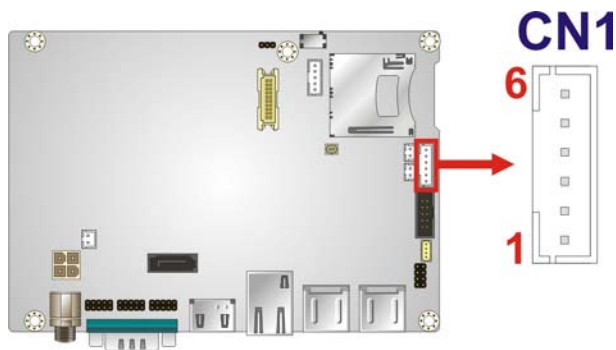

Figure 3-8: Power & HDD LED Connector Location
- CN Location:** See **Figure 3-8**